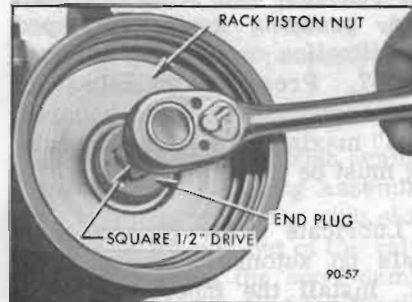

Figure 90-53—Removing Rack-Piston Nut End Plug
6. Remove rack-piston nut end plug with a 1/2 square drive. See Figure 90-53.